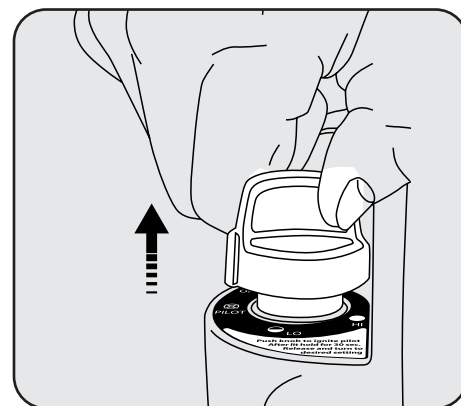

Figure 4
5. After pilot lights, hold down for 30 -60 seconds and then release knob. Knob should return to fully extended position. See Figure 4.
8. After pilot lights, hold down for 30 -60 seconds and then release knob. Knob should return to fully extended position. See Figure 4. The pilot should remain lit.